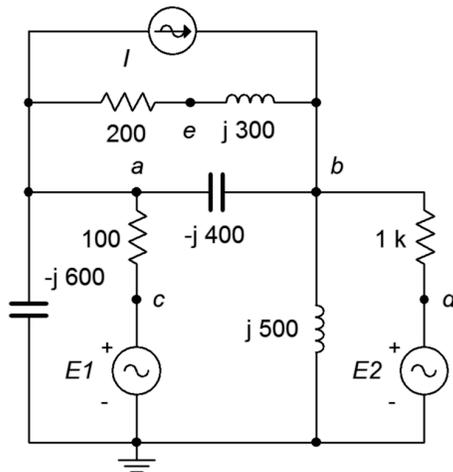

Figure 6.28
62. Given the circuit in Figure 6.28, write the node equations.  $E1 = 50\angle 0^\circ$ ,  $E2 = 35\angle 120^\circ$ ,  $I = 500E^{-3}\angle 90^\circ$ .
63. Given the circuit in Figure 6.28, use either mesh or nodal analysis to determine  $v_{ed}$ .  $E1 = 9\angle 0^\circ$ ,  $E2 = 12\angle 0^\circ$ ,  $I = 50E^{-3}\angle 0^\circ$ .